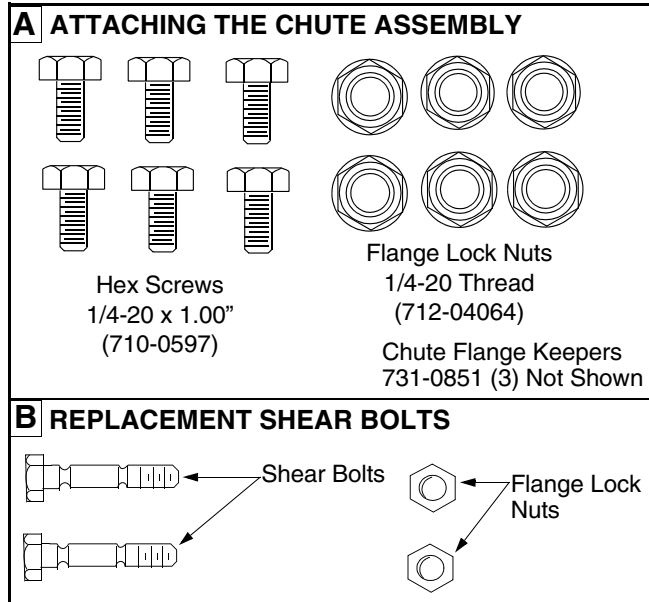

Figure 1
- The augers are secured to the auger shaft with two shear bolts and flange lock nuts. If you hit a foreign object or ice jam, the snow thrower is designed so that the bolts may shear. Two replacement shear bolts and nuts are provided for your convenience. Store in a safe place until needed. See Figure 1.